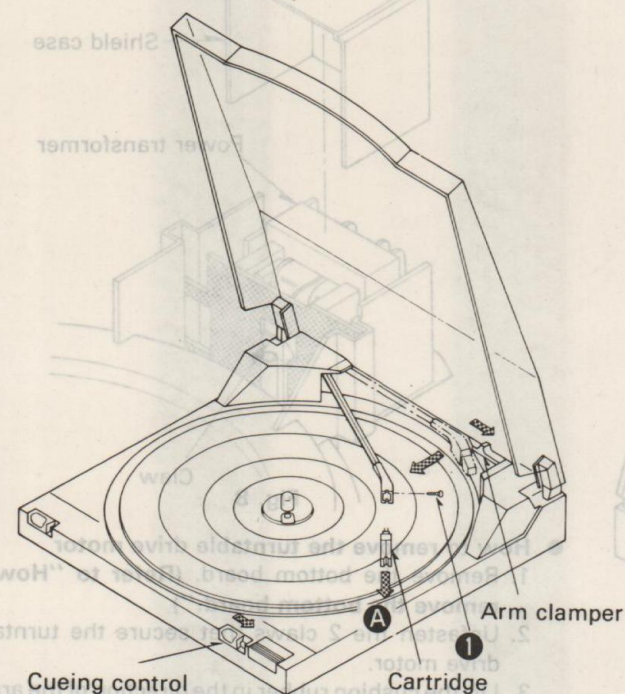

Fig. 1
3. Remove the setscrew (Fig. 1: ①) to remove the cartridge in the direction of the arrow (Fig. 1: A).